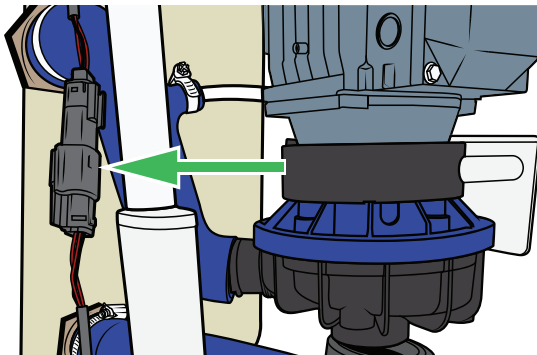

Figure 70
1. Connect the inlet sensor connector (detection of Hydromassage inlet strainer). See Figure 70.